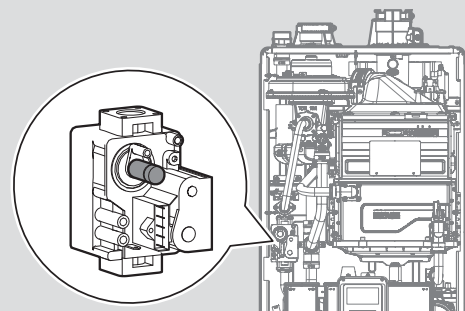

Figure 8. Set Screw Location
c. Activate multiple zones and set the boiler to operate at 1-stage MIN mode. Measure the CO₂ value at low fire. If the CO₂ value is not within 0.5% of the value listed in Table 2, the gas valve set screw will need to be adjusted. If adjustment is necessary, locate the set screw as shown in Figure 8. Using a ⁵/₃₂ in or 4 mm Allen wrench, turn the set screw no more than ¹/₄ turn clockwise to raise or counterclockwise to lower the CO₂ value.